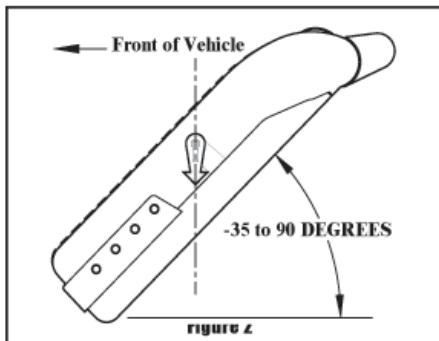

Figure 2
The controller must be mounted with the back of the controller toward the front of the vehicle. Mounting angles must be within -35 to 90 degrees (Fig. 2).
- 5) Push the pendulum arm away from the display until the lowest number is displayed. The leveling arm (Fig. 2) should be approximately straight down. Repeat steps 4 and 5 several times to make sure the display has just reached the minimum number.
- 1) With the controller properly adjusted, the display may flash with the 4-way flasher lights, but will not operate the trailer brakes (Fig. 2).
When the pendulum-leveling arm adjusted correctly (Fig. 2) the following will occur:
- 7) Readjustment of the pendulum-leveling arm: If the conditions described occur, refer to Figures 2, 4 and 5 for the affects of pendulum leveling arm adjustment.